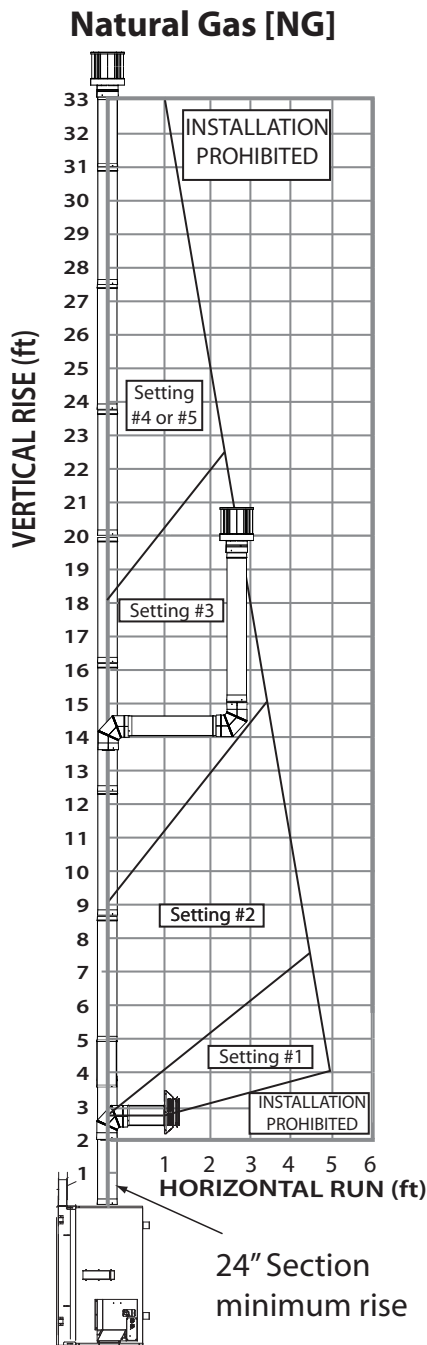
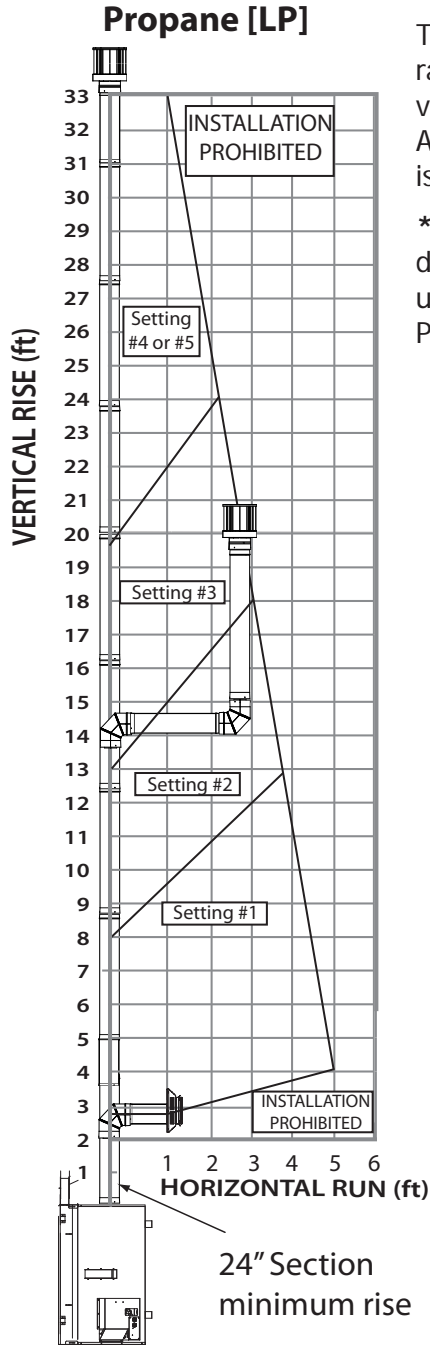

Figure 66: 8" x 11" NG Vent Graph
Figure 67: 8" x 11" LP Vent Graph
**\*Note:** Be sure to use the proper diagram depending on if your unit uses Natural Gas (Figure 66) or Propane (Figure 67).